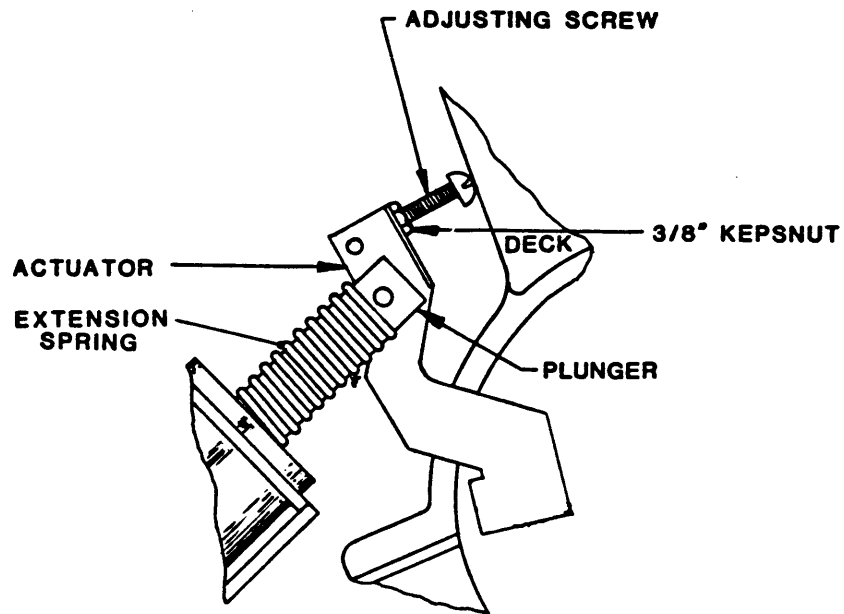

Figure 4-5 Hub Lock Solenoid Actuator
4.3.4 SPRING, EXTENSION (Fig. 4-5)